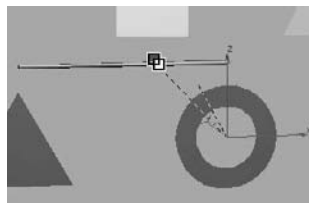

Figure 2.37
2. With the Select and Link tool still active, click and drag from the donut shape to the bar above it, as shown in Figure 2.37.